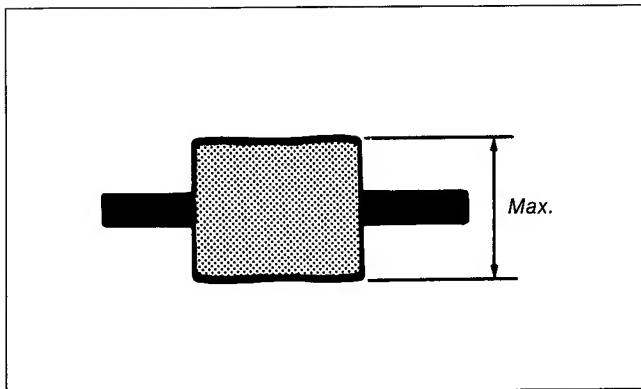

Fig. 8-53.
- 5) Turn the track shift knob of the track shift & monitor jig to maximize the amplitude of a RF waveform. (Refer to Fig. 8-53.) When the RF waveform is unstable and difficult to adjust, made adjustment after turning on the ATF LOCK switch. Then, return it to "OFF" after adjustment.
- 2) Turn the track shift knob of the track shift & monitor jig to maximize the amplitude of the RF waveform. (Refer to Fig. 8-53.)